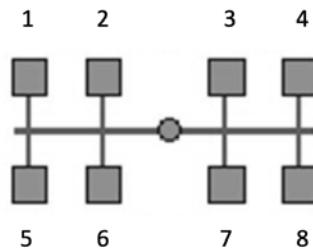

Figure 3 - Multi-part swab mold layout
e) You acquire a larger machine and design an 8-part mold by creating a linear array of swabs as seen below in Figure 3. What types of differences (defects) would you expect between parts 1 and 2? Describe what would be a better layout for the multi-part mold, considering both those defects and space efficiency?
a) As shown in Figures 3 and 4, the crank has a maximum length of 260 ± 0.1 mm, a total width of 150 ± 0.1 mm, a volume of 150 cm^3 , and a surface area of 260 cm^2 . Given these specified dimensions, what would you estimate to be the solidification time to be for the part? You can assume that it has a uniform thickness.